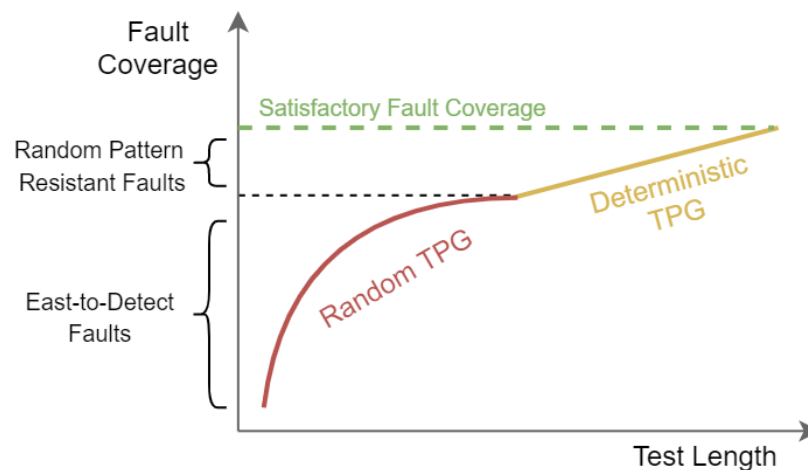

Figure 1: Fault coverage report by running RTG followed by ATPG
lower fault coverage compared to a set with an equal number of deterministically generated test vectors. Therefore, the main advantage of RTG is to detect many *easy* faults by just running fault simulation, and avoiding the expensive deterministic ATPG algorithms (such as D-Algorithm and PODEM). However, the rapid increase of fault coverage by running RTG will eventually saturate. The test process should detect this saturation and then run deterministic approaches for the remaining faults. This concept is illustrated in Fig. 1.
- To draw a figure similar to Fig. 1, you need to report FC every  $n_{TFCR}$  test vectors. Just a note that you may have access to the current FC ratio at every step, however, as we will see in the next phase for detection of saturation, we may need a report for every  $n_{TFCR}$  patterns. Corner cases are  $n_{TFCR} = 1$  or  $n_{TFCR} = n_{tot}$ . You can assume that  $n_{tot}$  is always a factor of  $n_{TFCR}$ .